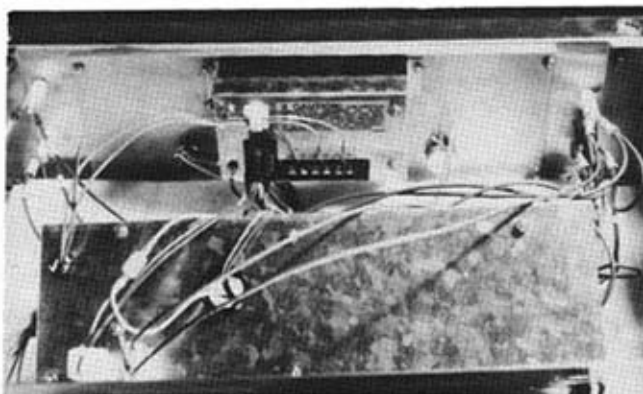

FIG. 5
2. Remove the six (6) screws securing top to side panels and remove top. Save screws for reuse.
3. Remove the two (2) screws securing power board bracket to escutcheon and save for reuse.
4. Carefully lay power board bracket back from escutcheon (See Figure 5).